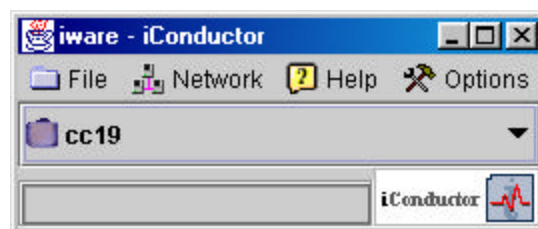

Figure 3-18. Login IDU Name Insert
6. Select the IDU that you wish to login to from the drop-down menu (see Figure 3-18). If there is not a network element for that IDU, simply select any IDU icon